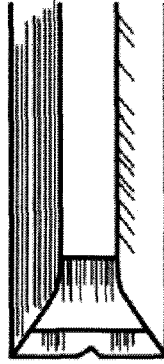

Figure 2
- (c) State **THREE** steps that should be followed to remove the chipped edge on a wood chisel as shown in Figure 2. [3]
- (e) Draw a sketch to show one appropriate way to use the entire surface of the oilstone to gain the sharpening angle on the chisel shown in Figure 2. [2]